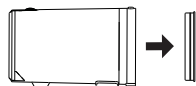

Figure 15
3. Remove the cotton filter from the dust container, as shown in **Figure 15**.